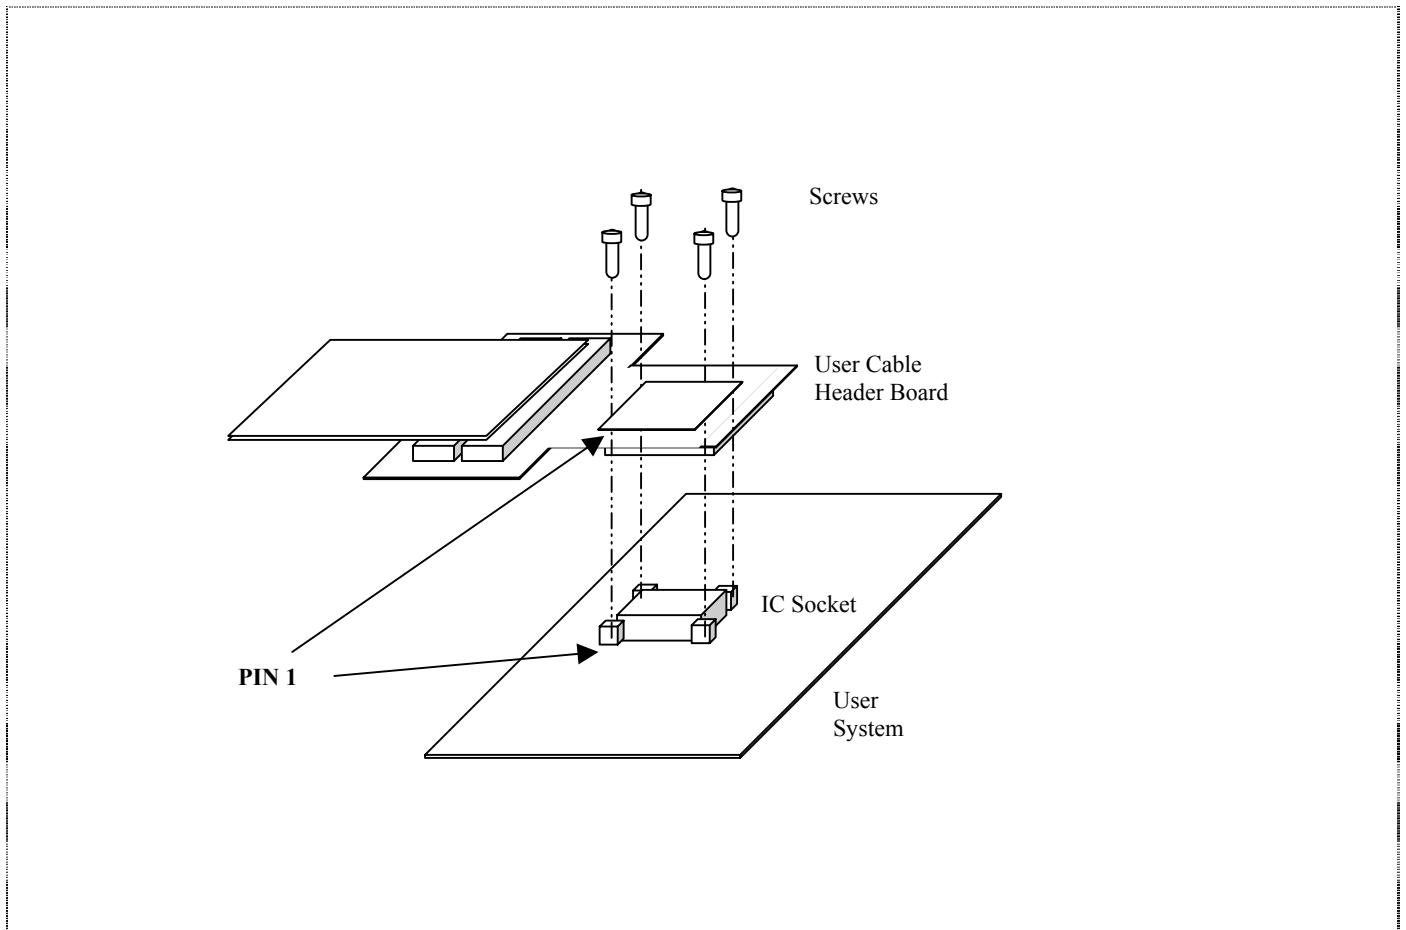

Figure 2.2 Connecting User System Interface Cable to User System
- Align pin 1 on the IC socket with pin 1 on the user system interface cable head, and insert the user system interface cable head into the IC socket on the user system as shown in figure 2.2.